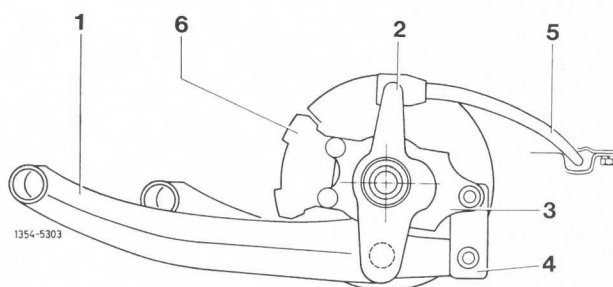

Fig. 13
The lower, forward-pointing control arm is a light metal trailing control arm having the same pivotal point on the axle carrier as the normal diagonal swing axle (item 1 in Fig. 13).
The lever arm of the torsion bar stabiliser mounted behind the axle serves as an upper control arm, pointing backwards (item 5 in Fig. 13).
Both control arms are linked by the wheel carrier which houses the wheel bearings (item 2 in Fig. 13).
The disc brake caliper is attached to a separate brake anchor which pivots on the wheel carriers concentrically with the rear wheel bearings (item 3 in Fig. 13).
The braking torque is taken up via a connecting plate (item 4 in Fig. 13), which connects the brake carrier with an extension of the trailing control arm.